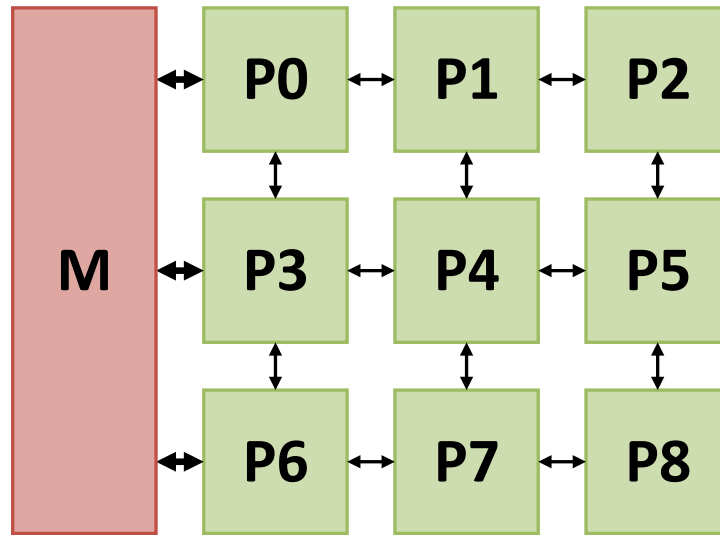

Figure 6: The considered hardware architecture in Problem 3.
Consider the 2D systolic architecture (SA) presented in Figure 6, which consists of: